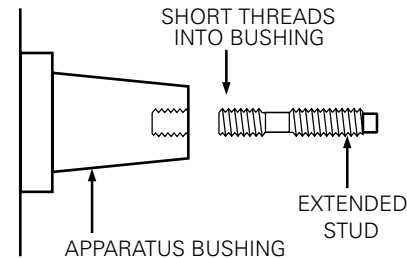

Figure 15. Line illustration of bushing stud installation
- Thread the shorter threaded end of T-OP II stud into the apparatus bushing until hand tight. (Refer to Figure 15.)